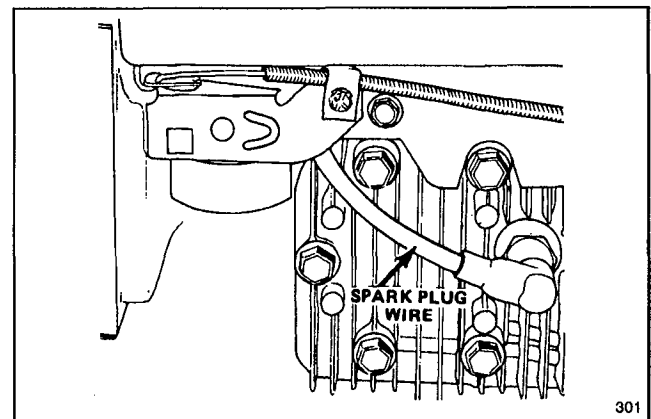

Figure 15
2. Push spark plug wire onto spark plug (Fig. 15).
1. Stop engine and pull wire off spark plug (Fig. 15). Remove key from switch on electric start model.
1. Stop engine and wait for engine to cool. Pull wire off spark plug (Fig. 15). Remove key from switch on electric start model.